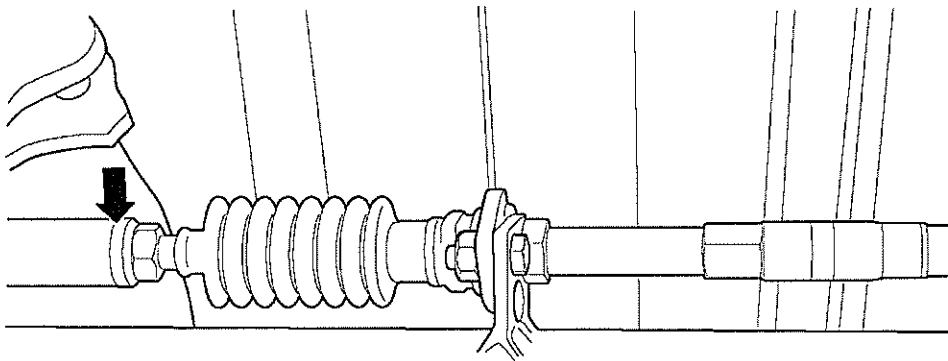

Fig 7 Transfer gearbox remote control cable
- 12.1 Loosen adjuster lock nut on gear selector rod (see Fig 7).